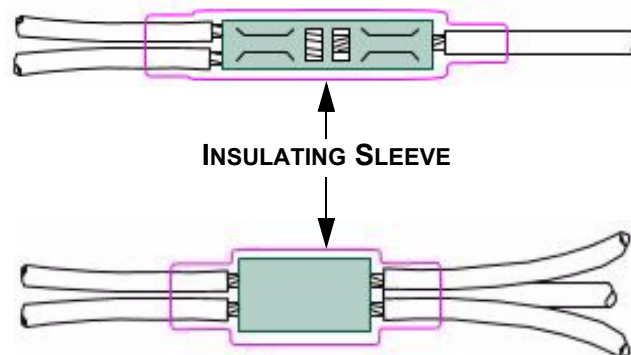

FIGURE 3 - INSULATION SLEEVE (TYPICAL)
- Modified insulation sleeve figure. See Figure 3.
- 5.2.2.1.3 Locate the insulation tubing centrally on the intended area making sure that the overlap is as required (see Figure 3).